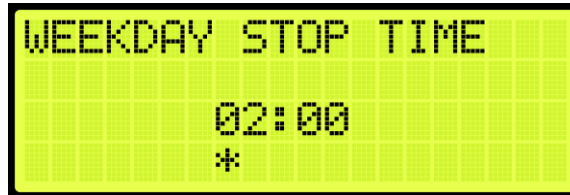

Figure 267: WEEKDAY STOP TIME Menu
12. From the WEEKDAY STOP TIME menu, set the stop time of the hall call security (See Figure 267).